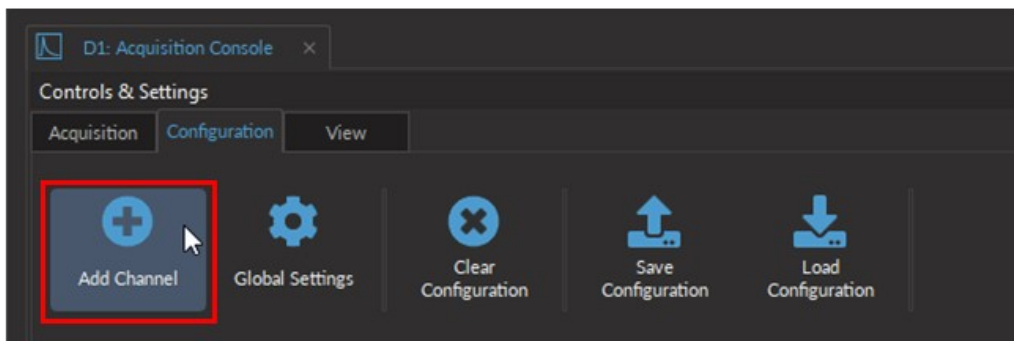
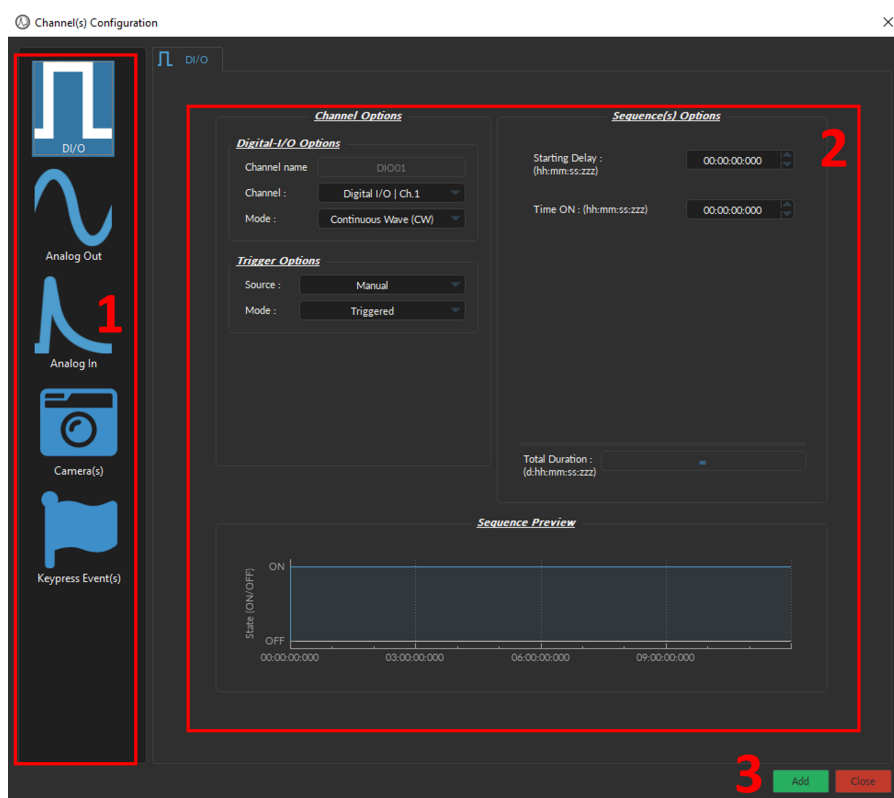

Figure 5.11: Add Channel button opens the Channel Configuration window
Figure 5.12: Channel(s) Configuration, Digital I/O input
To create a new channel, regardless of the input and/or output type, select the **Add Channel** button, which can be found under the **Configuration** tab (Fig. 5.11). This will open the **Channel(s) Configuration** window (Fig. 5.12).
To generate a new **Channel** using the **Channel(s) Configuration** window (Fig. 5.12):
1. Select one of the available **Channel Type** icons from the left most column of the **Channel(s) Configuration** window (Fig. 5.12). Table 5.1 describes the use case of each type.
3. Select the **Add** button (Fig. 5.12) to generate the defined channel or to update an already configured channel, but does not automatically close the *Channel Configuration* window. This allows the user to conveniently set up all required channels one after the other.
Different types of input and output can be configured for the specifics of the experiment by creating a new Channel in the Configuration tab or editing an existing one (Fig. 5.11). Table 5.1 details the types of inputs and output the console and the software can handle and gives quick access to their sections.